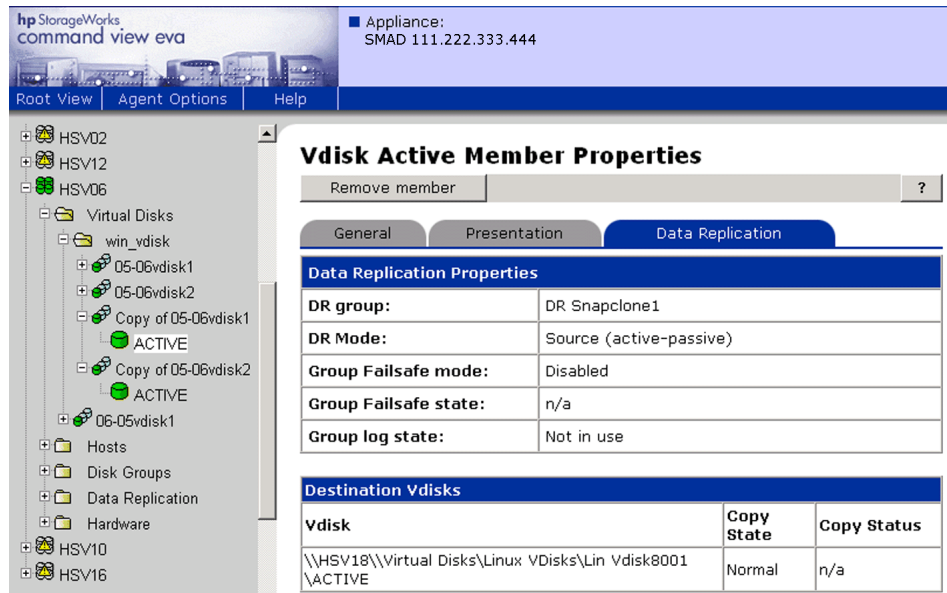

Figure 72: Vdisk Active Member Properties with Remove member tab
- b. Click the **Data Replication** tab. The Vdisk Active Member Properties page is displayed with a **Remove member** tab (Figure 72).